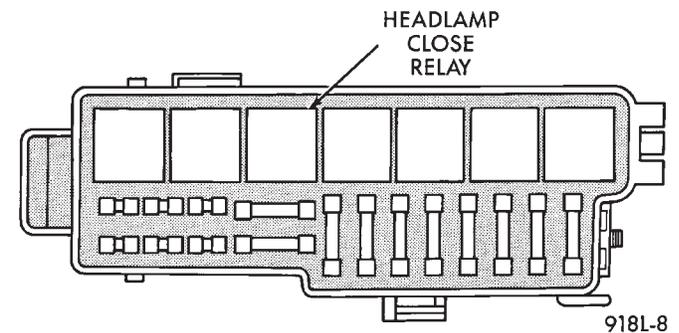

Fig. 2 Headlamp Close Relay
- (3) Remove the headlamp close relay (Fig. 2) to prevent the headlamp doors from closing.
- (4) Turn the headlight switch OFF.
- (5) Remove screws from headlamp bezel and remove bezel, if equipped.